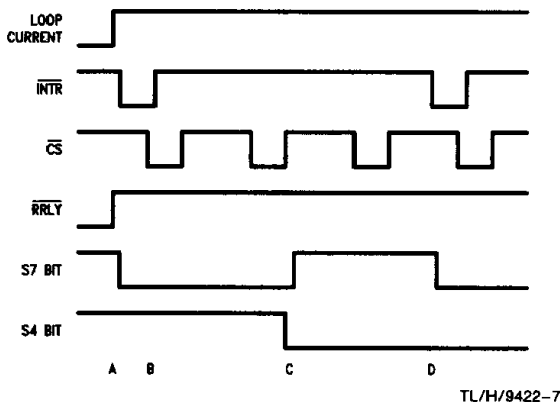

FIGURE 6. Typical Ring Trip Detect Timing
A typical example of ring trip timing is illustrated in Figure 6. When the Ring Supervision circuit detects a ring trip, the device immediately turns off  $\overline{\text{RRLY}}$ , clears S7 and sets  $\overline{\text{INTR}}$  low (A). The interrupt remains active until  $\overline{\text{CS}}$  goes low and the status is read, at which time the status of the switch hook is latched, clearing  $\overline{\text{INTR}}$  (B). Status bit S7 will remain a zero until the D4 bit is written to a zero, removing the device from the Ring mode (C). At this time, the S7 bit will indicate the switch hook status. Even though the station equipment is normally off-hook at this time, S7 will generally return to a "1" for several milliseconds (C) after D4 is cleared. This is because the Loop Supervision circuit was disconnected from the loop during ringing mode (D4 = 1), and it takes several milliseconds to detect the off-hook at which time S7 will be cleared and  $\overline{\text{INTR}}$  will be set low (D). At this point the device is in the normal (non-ringing) mode, all necessary circuitry is powered up.